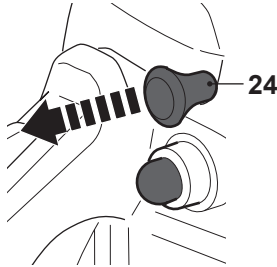
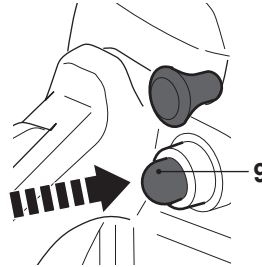

Fig. 28
Fig. 29
- > If the engine is cold, pull out the choke knob (24) to the start position (closed position) (Fig. 28). The throttle trigger will then be set in the starting position. Press the primer (9) until the bubble is completely filled with fuel (Fig. 29).